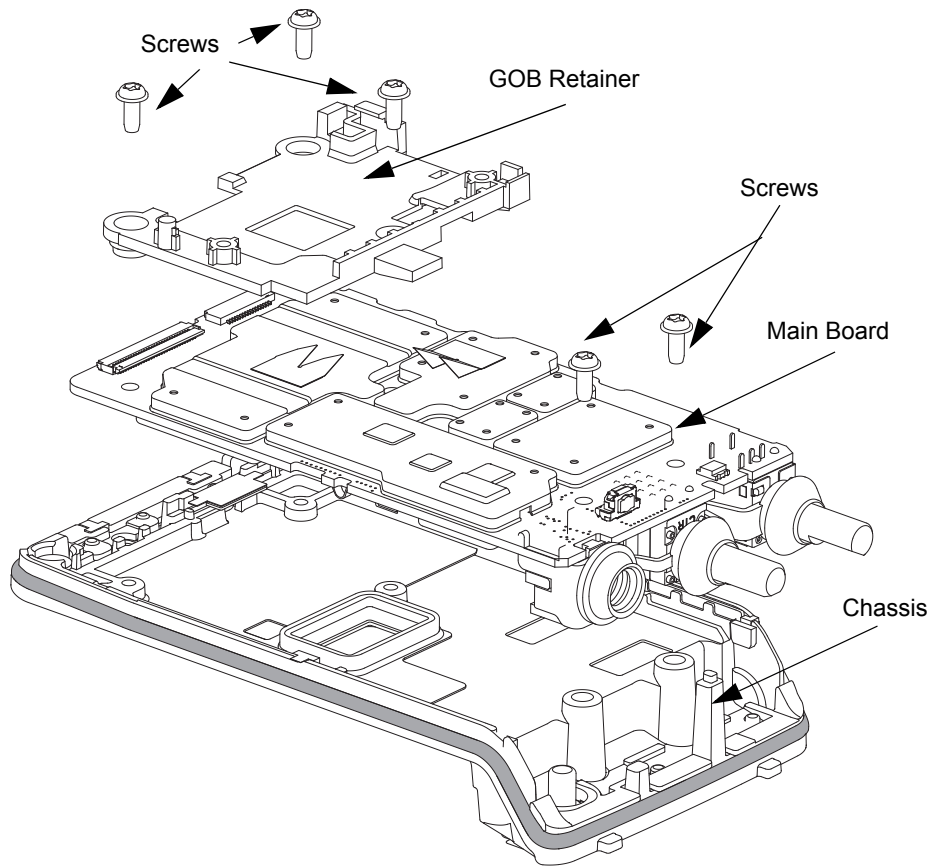

Figure 5-13. Chassis Reassembly
2. Tighten the main board screws in the sequence shown in Figure 5-13.